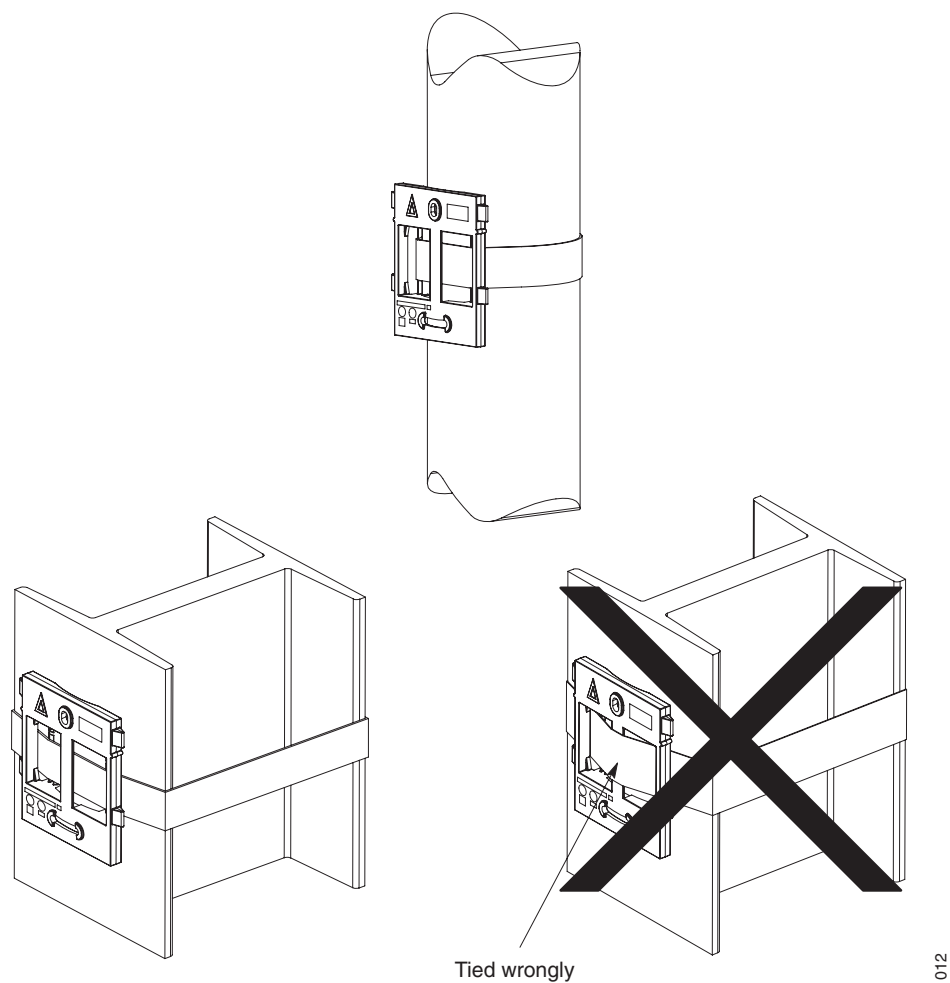

Figure 5. Fixing the mounting bracket to a pole or beam
- 1 Fix the mounting bracket to a pole or beam using the metal band, see figure 5.